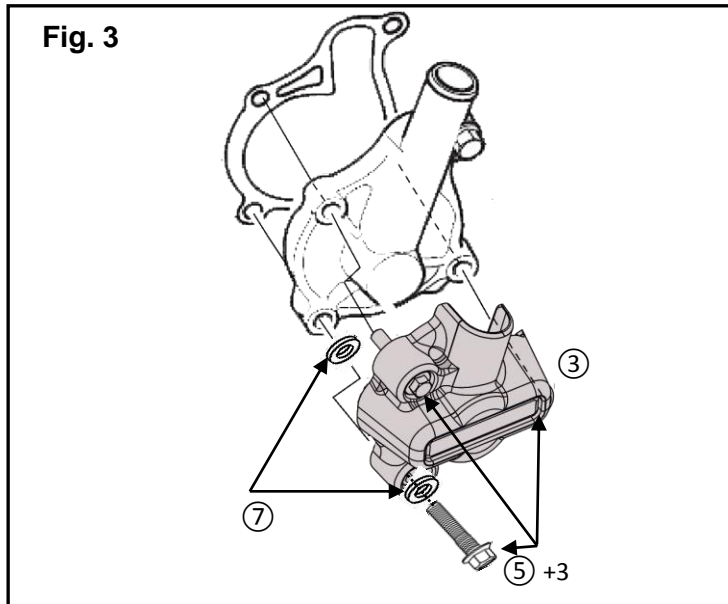

Fig. 3
3. Remove 2 additional bolts that hold the water pump to the engine as shown in Fig.3. Do not remove the 4th bolt, leave it in place.
**Note:** There is a gasket between the water pump housing and the engine. Do not remove the pump unless you have to replace the gasket (Fig.3). Replace the gasket with a new one if it has been damaged in any way.